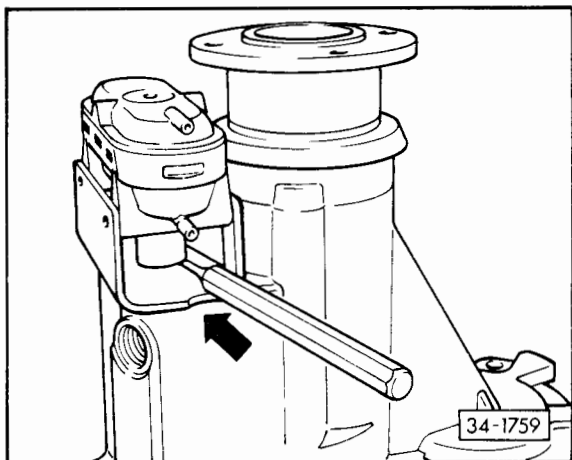
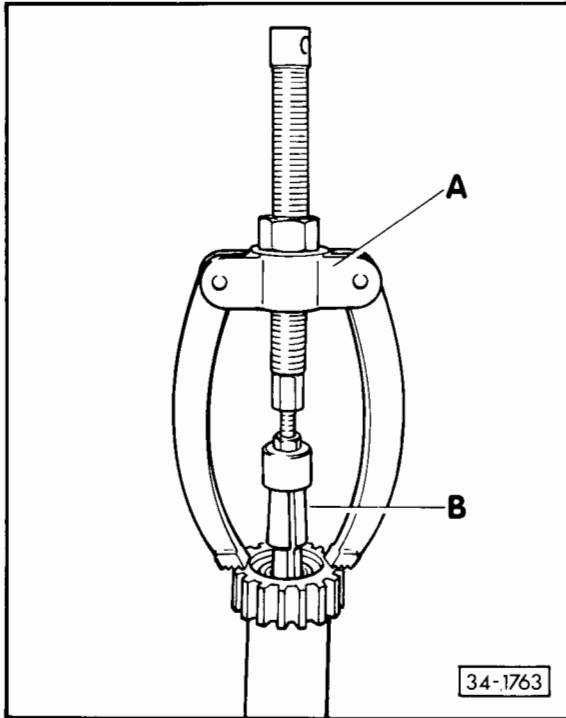

Fig. 1 Removing shift element
Fig. 5 Removing needle bearing
- Removing – Fig. 1
- 11 Hexagon head bolt (2)
- 12 Hexagon head bolt (2)
- 13 Oil seal (2)
- 14 Switch for warning lamp (2)
- 15 Oil seal (2)
- 16 Input shaft (1)
- 17 Circlip (1)
- 18 Connecting sleeve (1)
- 20 Needle bearing (2)
- Removing – Fig. 5